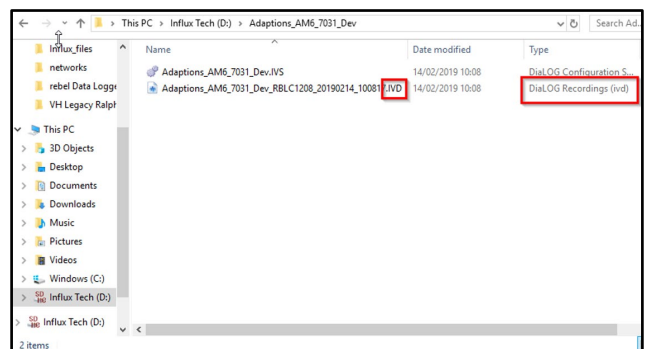

Figure 9
5. Copy the IVD files from the SD card onto your laptop (refer to Figure 9).